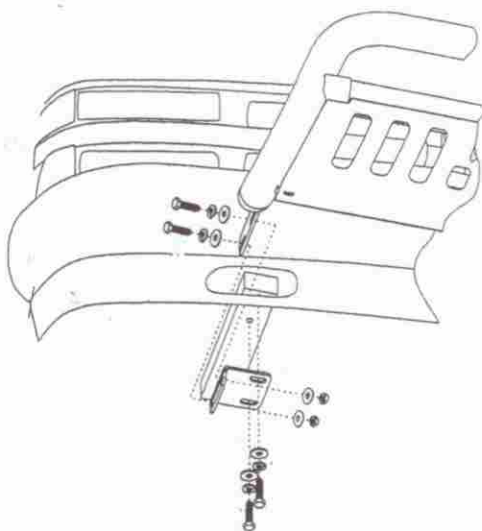

Figure 1
5. Hang Mounting Bracket into position by partially threading front existing bolt into existing nut plate. Make sure rear tow hook hole is aligned with nut plate and insert existing rear tow hook bolt (Figure 1). Do not tighten at this time.
6. Attach Bull Bar on the outer side of Mounting Brackets through tow hook opening in lower air dam. Use the included 12-1.75mm x 30mm Hex Bolts, 12mm Flat Washers, 12mm Lock Washers, and 12mm Hex Nut to secure Bull Bar to Mounting Brackets (Figure 1)..